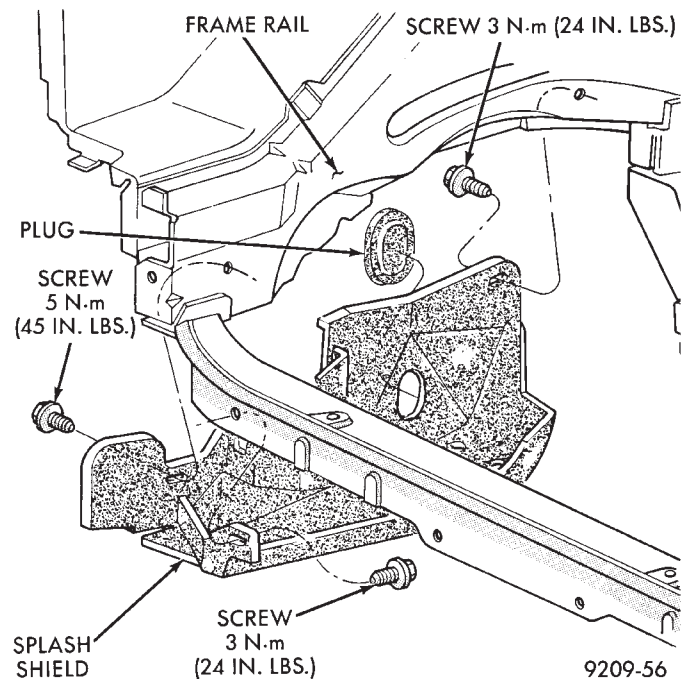

Fig. 6 Right Inner Splash Shield
- (14) **Automatic Transmission**
- (15) Attach C-clamp on front bottom of torque converter housing to prevent torque converter from coming out.
- (16) Install transmission holding fixture.
- (17) Remove right inner splash shield (Fig. 6).
- (18) Remove ground strap.